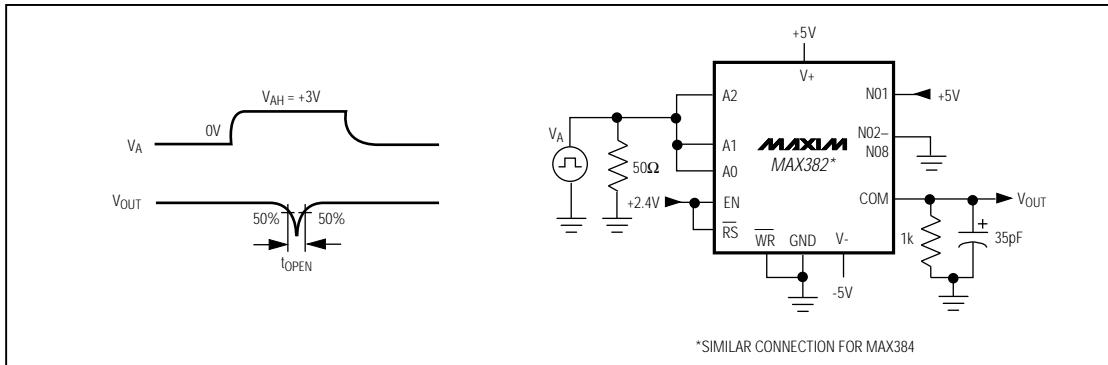

Figure 2. Break-Before-Make Interval (t_{OPEN})
WRITE (WR) and RESET (RS) strobes are provided for interfacing with μP-bus lines, alleviating the need for the μP to provide constant address inputs to the mux to hold a particular channel (Figures 2–7).